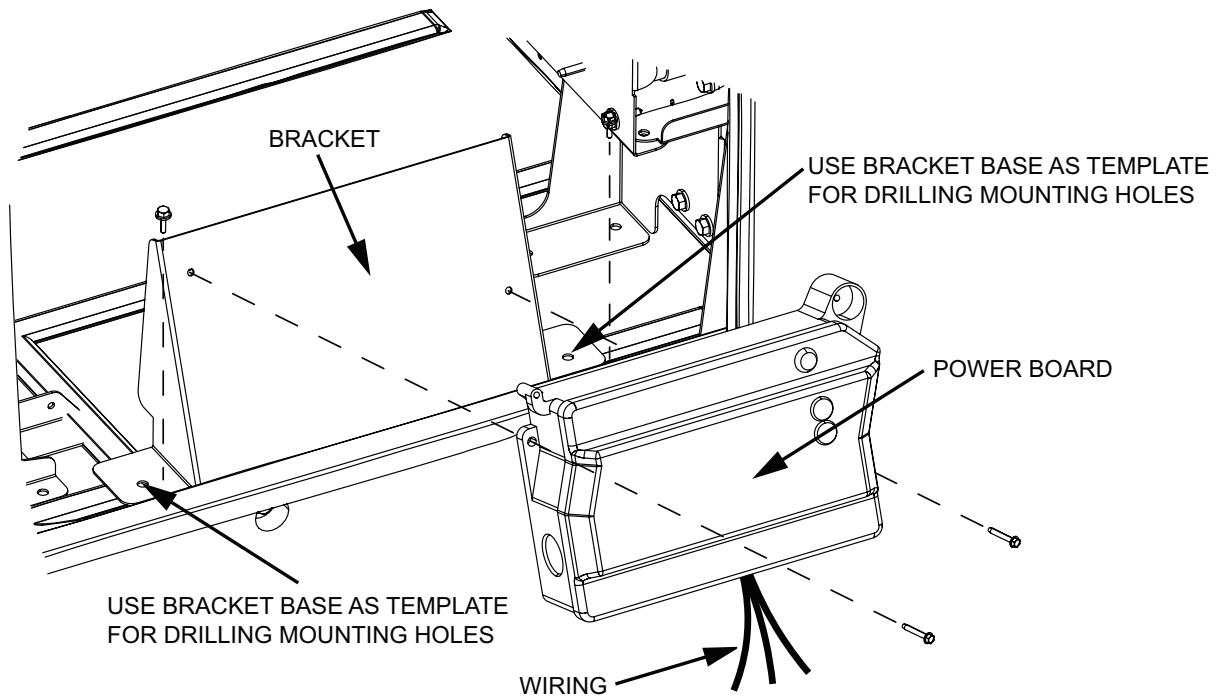
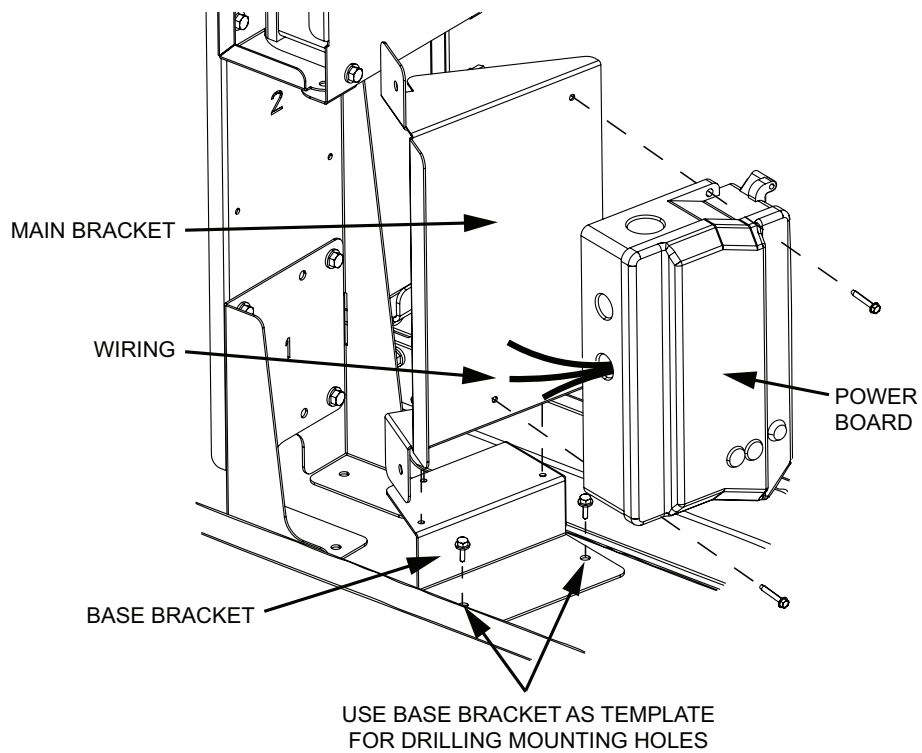

FIGURE 12
FIGURE 13
- 2 - Mount power board per FIGURE 12 and FIGURE 13.